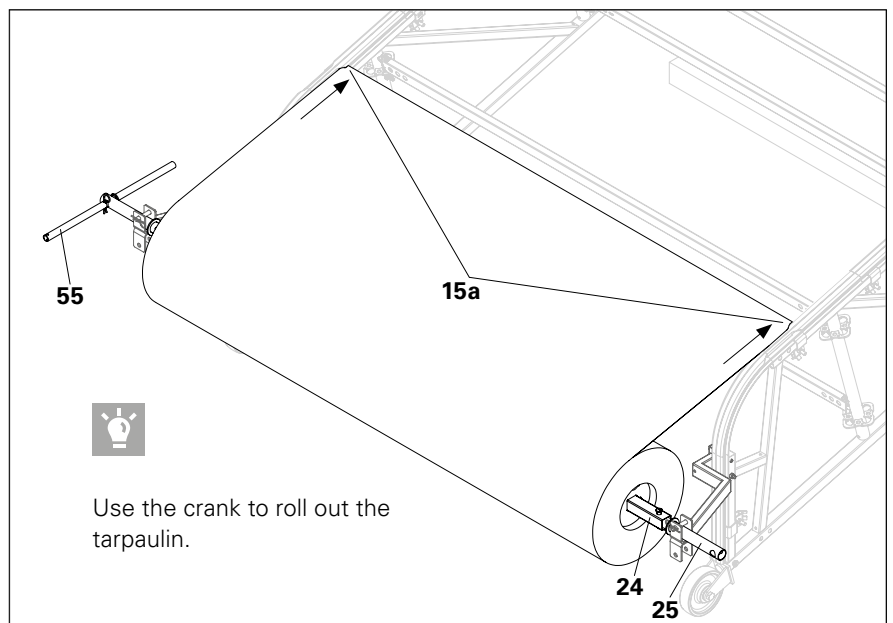

Fig. A5.02
1. Place the tarpaulin reel with the handles on both sides in the bearing plates of the reel connector. (Fig. A5.01a + Fig. A5.02)
3. Feed the keder cord into the groove of the eave rails (**15a**). (Fig. A5.02)